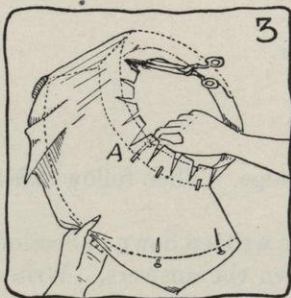

FIG. 3.
- (2) Slash this cut edge with slashes $\frac{1}{2}$ inch apart to within $\frac{1}{4}$ inch of the top headsize (see Figure 3).
- (1) Slip material over top headsize and let it drop to bottom headsize, then pin at a sharp angle (see point A, Figure 3).
- (1) Backstitch top facing through frame directly under the edgewire (see Figure 3 of Job 32, page 131).
- (2) Catch interlining, if there is one, at the same time.
- (3) Cut off surplus material when the edge is stitched in place.